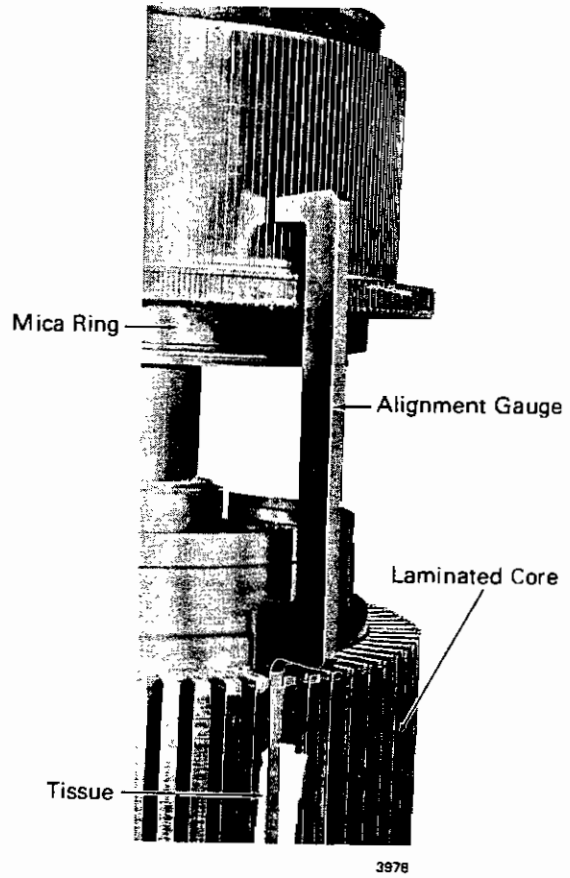

Fig. 21 - Alignment of Commutator with Core Before Pressing
5. Place commutator on the shaft. Line up the commutator to the core with an alignment gauge, Fig. 21, so that the mica between the commutator bars will line up with the centreline of the coil slot in the core. Refer to Service Data for alignment gauge part number. Ensure air passage holes in the commutator spider line up between the spokes in the coil support.